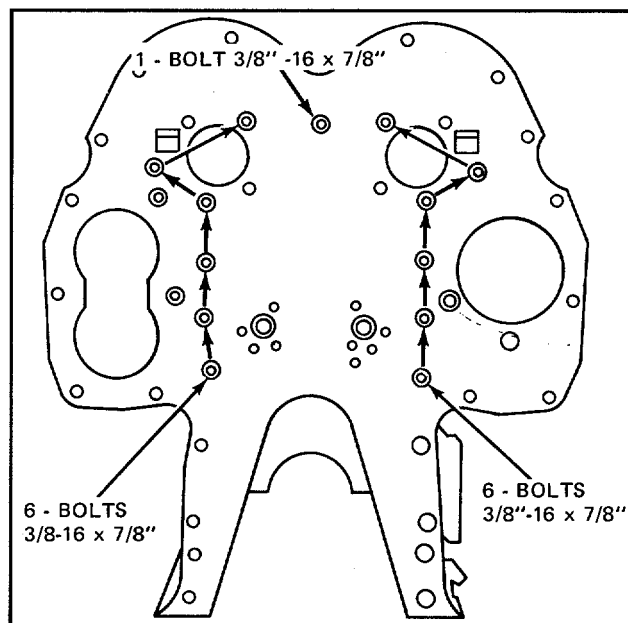

Figure 1. Cylinder Block Rear End Plate Mounting (In-Line Engine)
3. On in-line engines, refer to Fig. 1 and install the 3/8-16 x 7/8 inch long bolts with lockwashers. Tighten the bolts to 30-35 lb ft (41-47 Nm) torque.